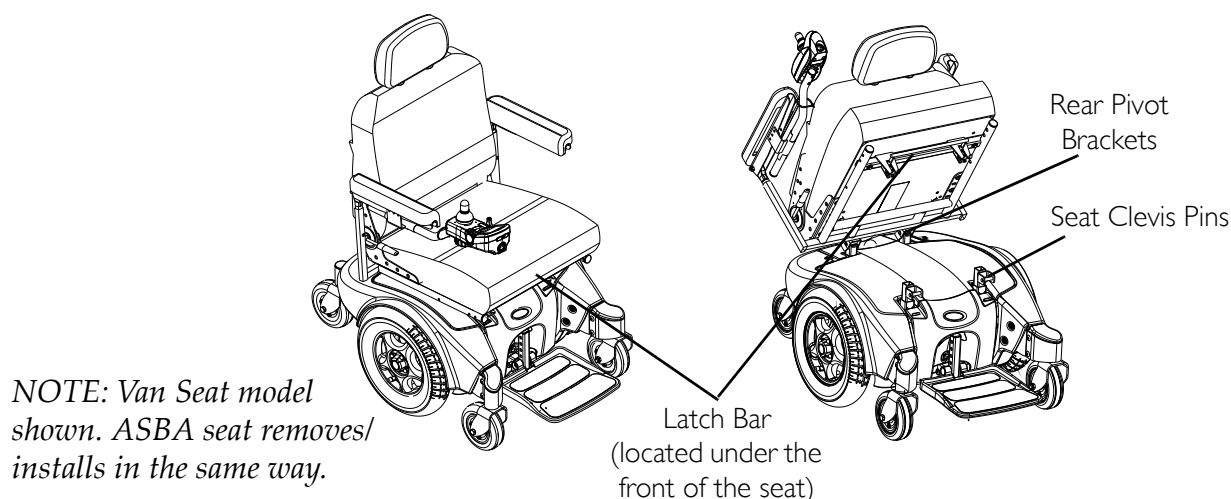

FIGURE 7.4 Removing/Installing the Seat Assembly
NOTE: For this procedure, refer to FIGURE 7.4.
1. Position the seat in the rear pivot brackets as shown in FIGURE 7.4.